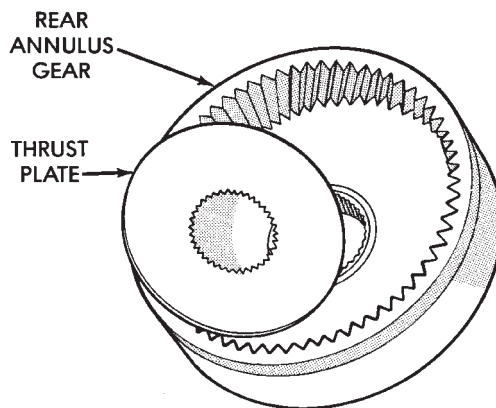

Fig. 76 Rear Annulus Thrust Plate Removal—46RH
(8) Remove thrust plate from rear annulus gear (Fig. 76).